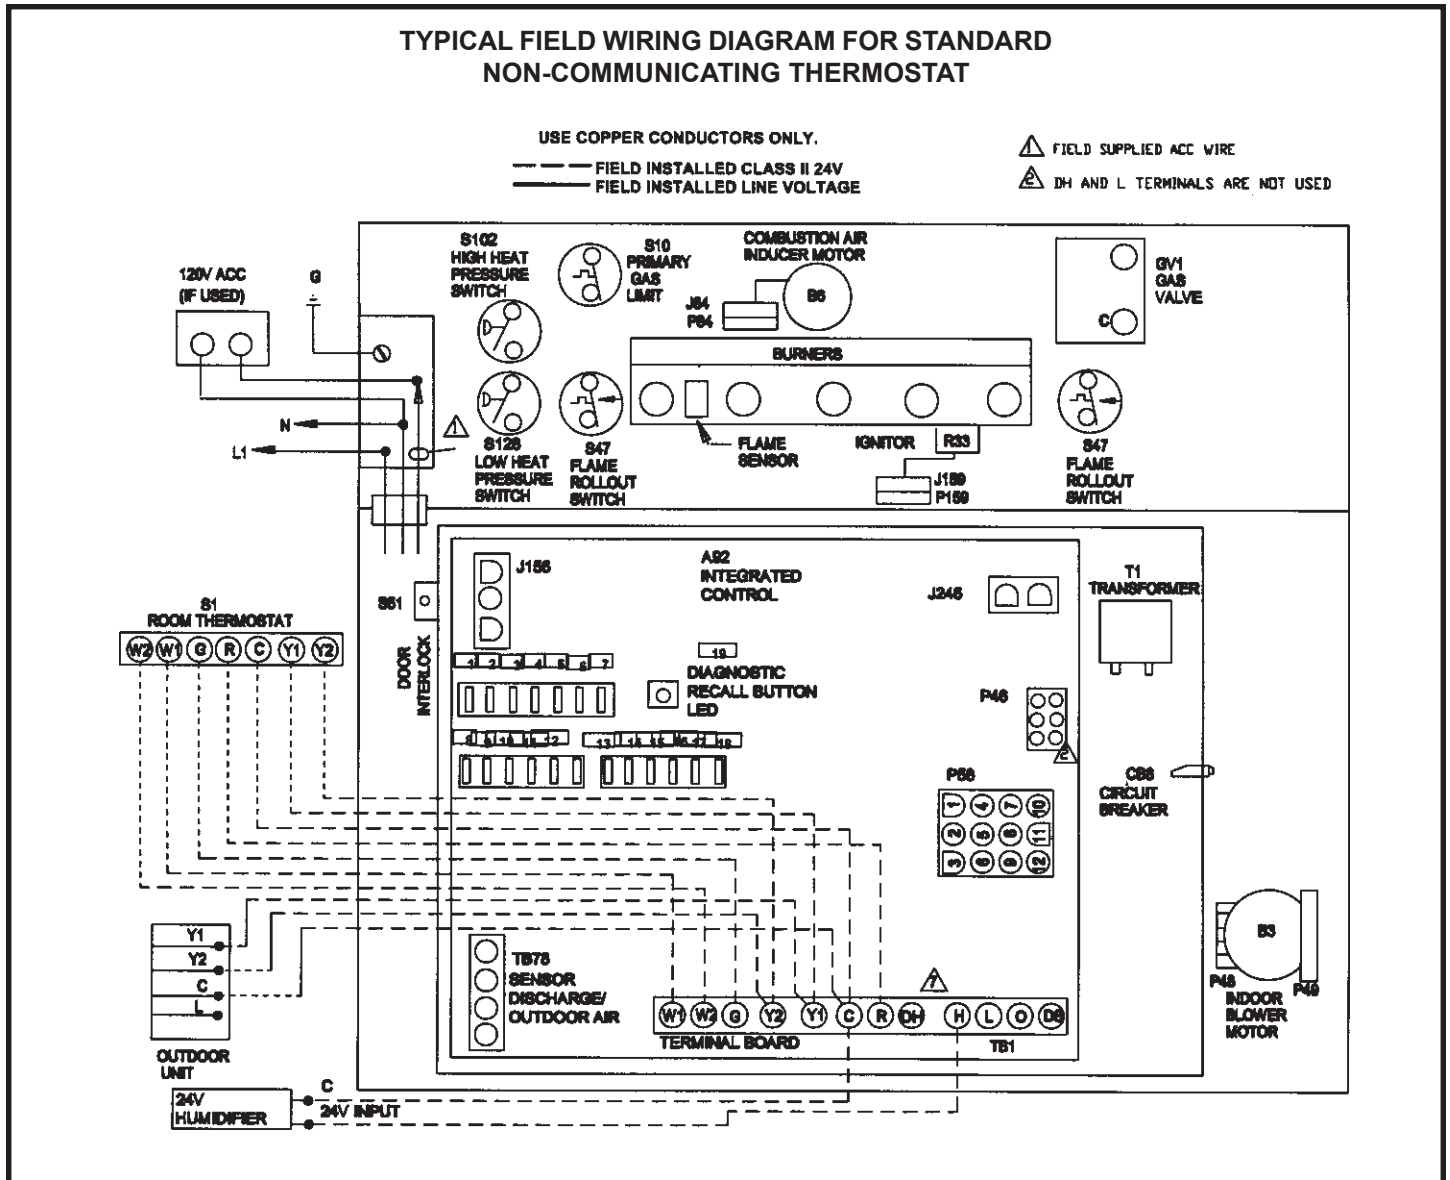

Figure 32
Refer to Figure 32 for unit field wiring. Tables 13 through 19 shows DIP switch and on-board link settings for non-communicating thermostat applications. Typical wiring schematic is shown in Figure 33.
5. Complete the wiring connections to the equipment. Use the provided unit wiring diagram and the field wiring diagram shown in Figure 32. Use 18 gauge wire or larger that is suitable for Class II rating for thermostat connections.